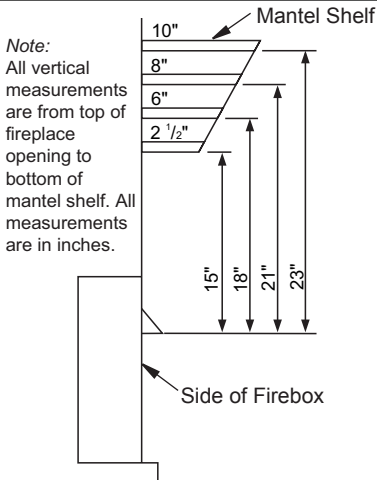

Figure 10 - Minimum Mantel Clearances for Built-In Installation
C. For mantel clearances, see Figure 10, page 12.
If placing mantel above built-in fireplace, you must meet minimum clearance between mantel shelf and top of fireplace opening (see Figure 10, page 12).
NOTICE: If your installation does not meet the minimum clearances shown in Figure 10, you must do one of the following: